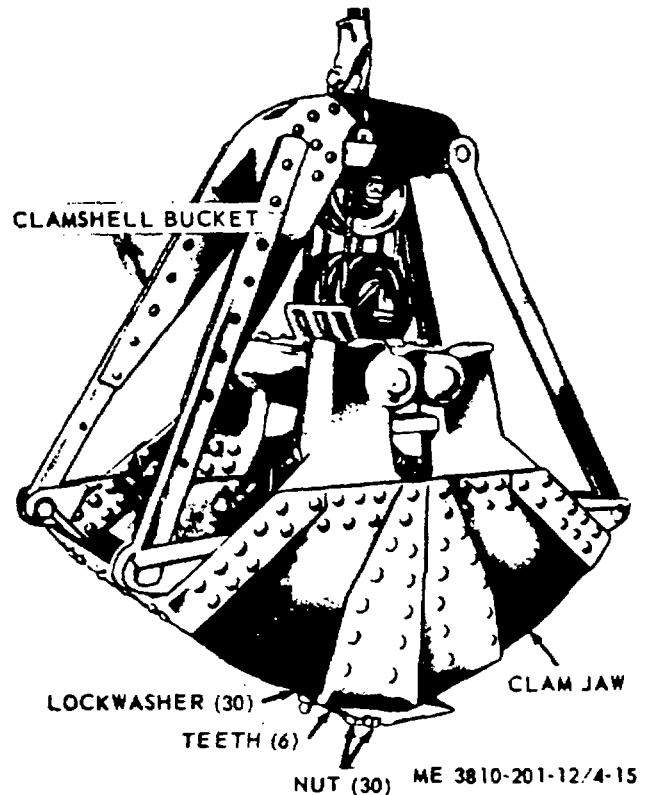

Figure 4-15. Clamshell bucket teeth replacement.
(1) *Removal.* Position bucket on its side, remove 30 nuts, (fig. 4-15), lockwashers, and bolts, and six teeth from clam jaws.
(3) *Installation of Teeth.* Install teeth on jaws (fig. 4-15) and secure with bolts, lockwashers, and nuts.